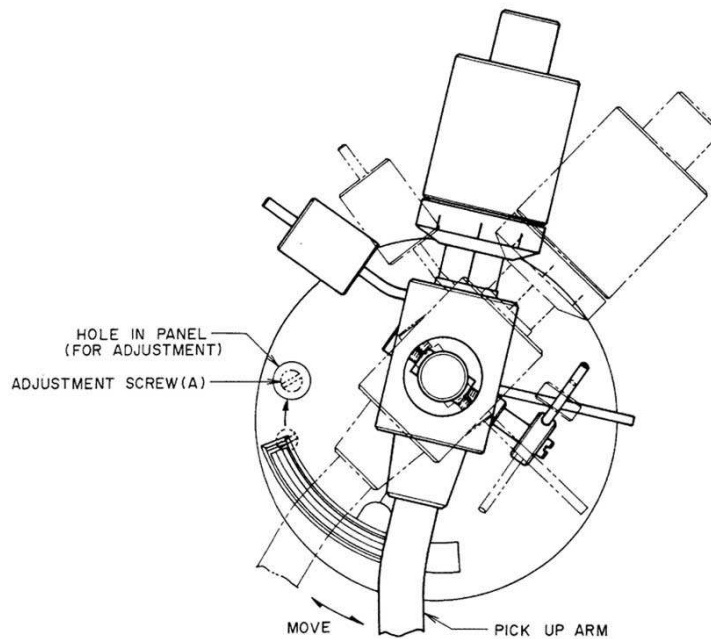

Fig. 1
Remove the rubber plug on panel toward the rear part of the pick up arm. When the pick up arm is moved as shown in Fig. 1, Adjustment Screw (A) becomes accessible through the hole from which the rubber plug has been removed. When Adjustment Screw (A) is turned clockwise, stop position will be advanced and when turned counter-clockwise, stop position will be delayed.